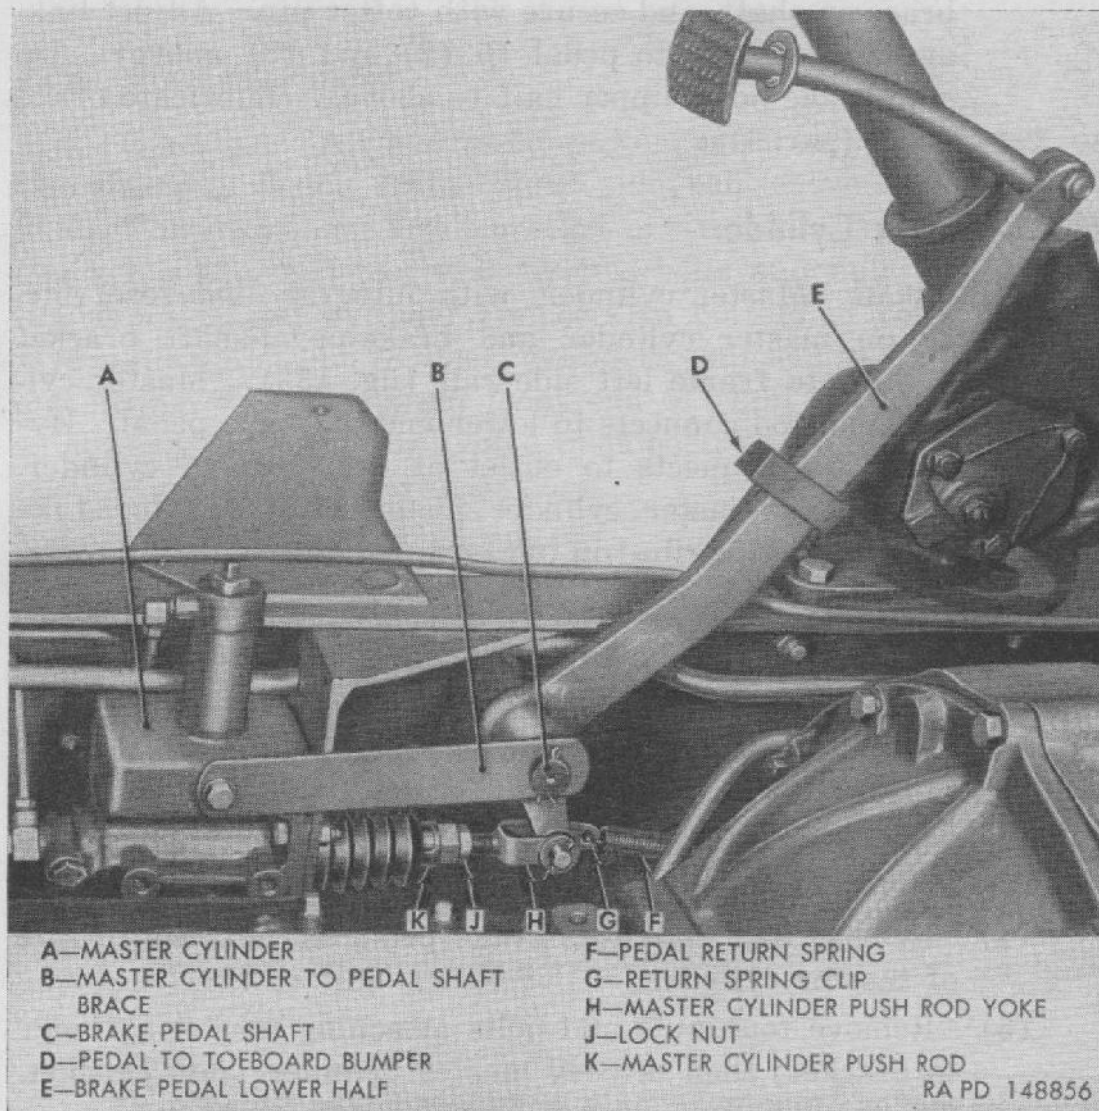

Figure 133. Brake pedal and master cylinder installed.
a. GENERAL. Brake-pedal shaft is welded to master cylinder bracket which is riveted to frame side rail. Pedal lower half is secured on shaft by master cylinder-to-pedal-shaft brace and cotter pin (fig. 133). Pedal upper half is secured in pedal lower half by a clamp bolt and nut.
b. BRAKE-PEDAL-LINKAGE ADJUSTMENT. Master-cylinder piston must return to fully released position when brake pedal is released. If piston and cup do not return completely to end of cylinder, bypass port between cylinder and reservoir will be closed and fluid returning from the wheel cylinders cannot enter the master cylinder reservoir. Proper pedal linkage adjustment must be maintained to insure return of master cylinder piston to end of cylinder. Adjustment is made at master cylinder piston push rod as follows (fig. 133):
- (1) Loosen lock nut on master-cylinder-push-rod yoke; then remove cotter pin and clevis pin attaching yoke and return spring clip to brake pedal.
(2) With brake-pedal bumper against pedal plates on toe board and master-cylinder piston at extreme front end of cylinder, adjust yoke in push rod as necessary to aline holes in yoke and pedal; then turn yoke into push rod an additional one-half turn to provide slight clearance between push rod and piston.
(3) Install clevis pin attaching push rod yoke to brake pedal, with return spring clip installed under head of clevis pin, and secure with cotter pin. Tighten lock nut against push rod.
(1) *Removal.* Remove nut from clamp bolt securing pedal upper half in pedal lower half (fig. 133) and remove clamp bolt. Pull pedal upper half up out of pedal lower half and hole in pedal plate.
- (2) *Installation.* Insert pedal upper half down through felt seal in pedal plate and into end of pedal lower half. Aline notch in pedal upper half with clamp bolt hole in pedal lower half, install clamp bolt and nut, and tighten nut to 20-27 pound-feet torque.
d. BRAKE PEDAL LOWER HALF REPLACEMENT (fig. 133).
- (1) *Removal.* Remove brake pedal upper half (*c* above). Remove cotter pin and clevis pin attaching master cylinder push rod yoke and return spring clip to pedal lower half. Remove cotter pin securing pedal shaft brace on pedal shaft. Loosen bolt attaching brace to master cylinder, remove brace from end of pedal shaft; then slide pedal lower half off shaft. Remove rubber bumper from pedal lower half.
- (2) *Installation.* Install rubber bumper on pedal lower half. Place pedal lower half on pedal shaft, position brace on shaft, and secure with cotter pin. Adjust linkage and connect to pedal (*b* (2) and (3) above). Install brake pedal upper half (*c* above). Lubricate brake pedal (par. 57).
a. GENERAL. Master cylinder, with integral fluid reservoir, is mounted on master cylinder and brake-pedal-shaft bracket which is riveted to frame left side rail (fig. 133). Master cylinder piston push rod connects to lower end of brake pedal. Hydraulic brake line connects to outlet at rear end of cylinder. Linkage connecting master cylinder piston push rod to brake pedal is adjusted as described in paragraph 223a.
b. MASTER CYLINDER REMOVAL (fig. 133).
- (1) Remove bolt and gaskets attaching hydraulic brake line connector to rear end of master cylinder.
- (2) Remove cotter pin and clevis pin attaching master cylinder piston push rod to brake pedal.
- (3) Disconnect air vent line from master cylinder filler extension.
- (4) Remove bolt attaching brake pedal shaft brace to side of master cylinder.
- (5) Remove four nuts and bolts attaching master cylinder to bracket; then remove master cylinder from bracket.
- (6) Remove yoke and lock nut from master cylinder piston push rod.
c. **MASTER CYLINDER INSTALLATION** (fig. 133).
- (1) With lock nut threaded onto push rod yoke, thread yoke into end of master cylinder piston push rod.
- (2) Position master cylinder at bracket, with push rod and yoke inserted through hole in bracket. Attach master cylinder to bracket with four bolts and nuts. Tighten nuts to 20-27 pound-feet torque.
- (3) Attach brake pedal shaft brace to side of master cylinder with bolt and lock washer.
- (4) Insert hydraulic brake line connector bolt through connector, with gasket on both sides of connector, and thread bolt into rear end of cylinder. Tighten bolt firmly.
- (5) Connect air vent line to master cylinder filler extension.
- (6) Connect piston push rod yoke to brake pedal, making adjustment as described in paragraph 223b.
- (7) Bleed brake system (par. 219).